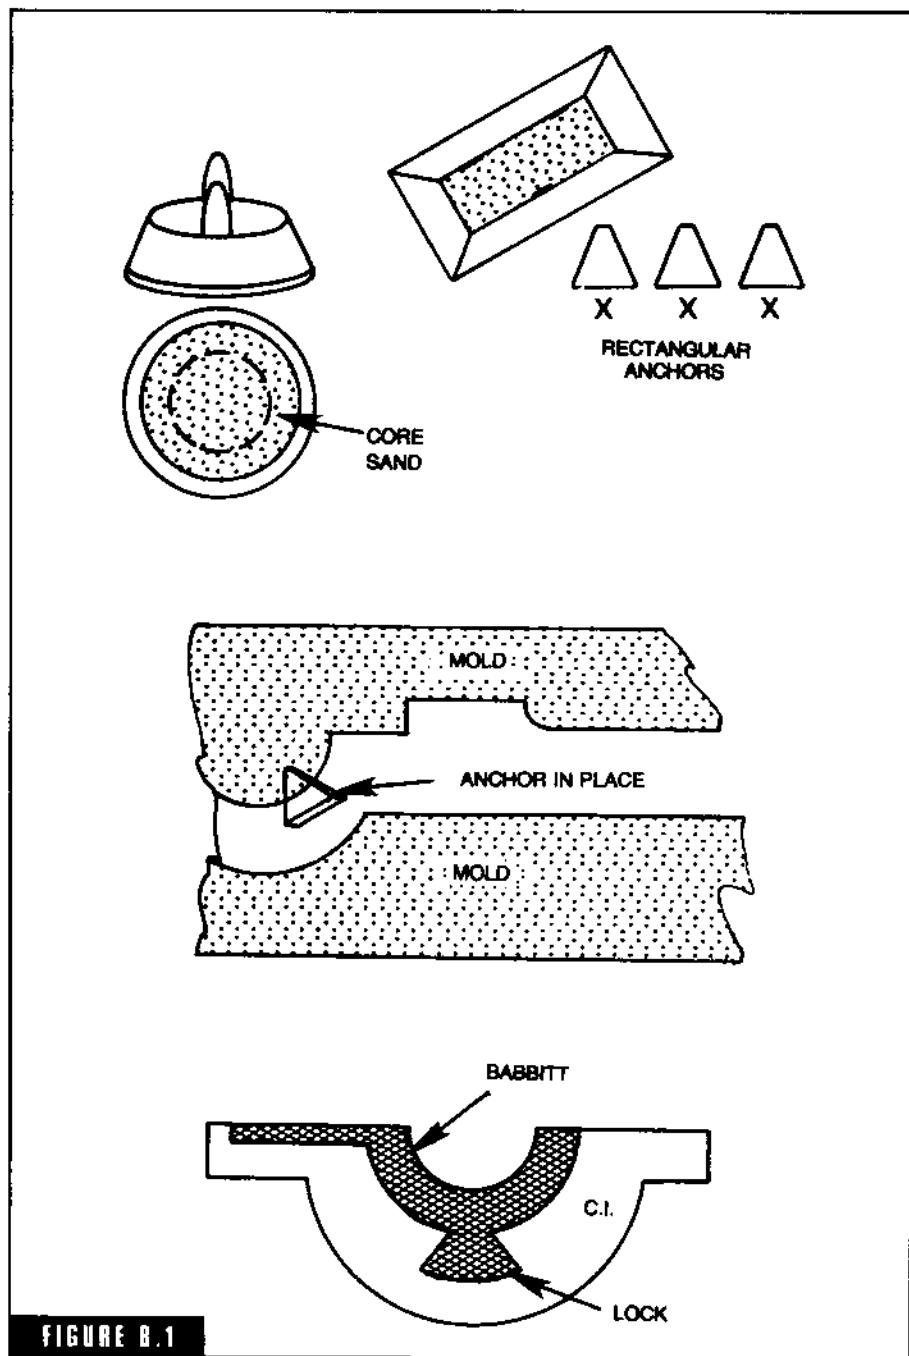

FIGURE B.1
**babbitt anchors** A tin form filled with baked core sand used to cast an undercut cavity in a casting where a babbitt bearing is going to be poured (cast) (Fig. B-1). The cavity made in the casting provides a lock to hold the babbitt in position. The anchors have metal springs to hold them in place in the green sand mold during casting. They can be purchased in diameters from  $\frac{1}{8}$  inches to  $1\frac{1}{4}$  inches and rectangular from  $\frac{1}{2} \times 1\frac{1}{4} \times \frac{3}{16}$  inch deep to  $\frac{3}{8} \times 3\frac{1}{2} \times \frac{1}{8}$  inch deep.